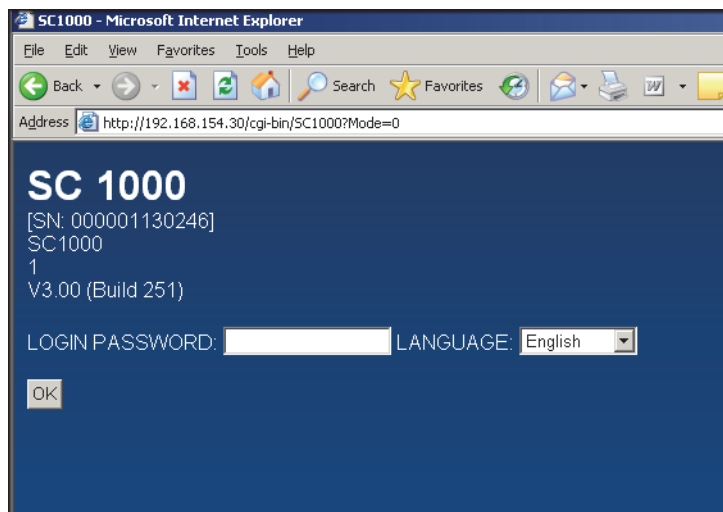

Figure 9 Login page for sc1000 controller
3. Open the web browser on the computer and enter the IP address of the sc1000 controller into the address bar (Figure 9).